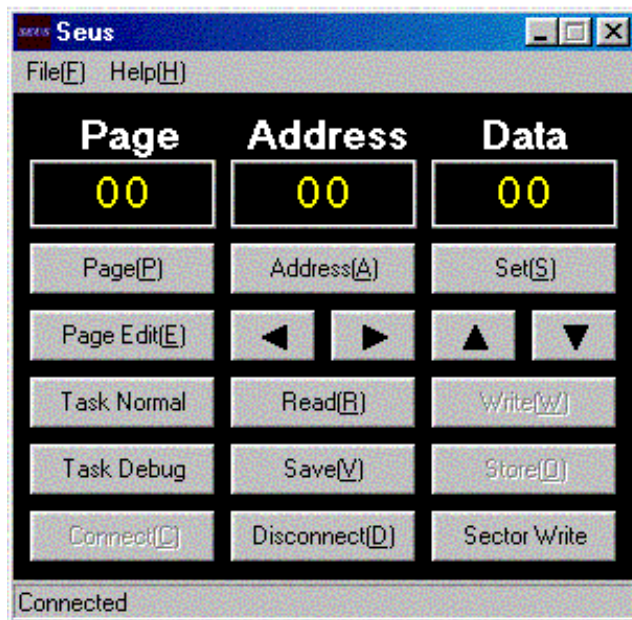

Fig. 6-1-7
- 5) Click **Connect** on the SEUS screen. If the connection is normal, the SEUS screen will be as shown in Fig. 6-1-7, indicating the "connected" state.